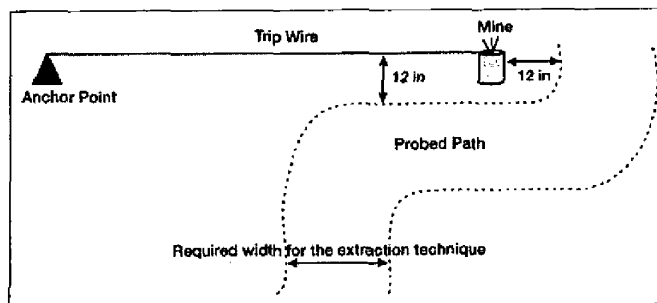

Figure 052-192-1042-6. Marking a Trip Wire
c. Mark the line of the trip wire along the ground surface 12 inches before the trip wire (Figure 052-192-1042-6).